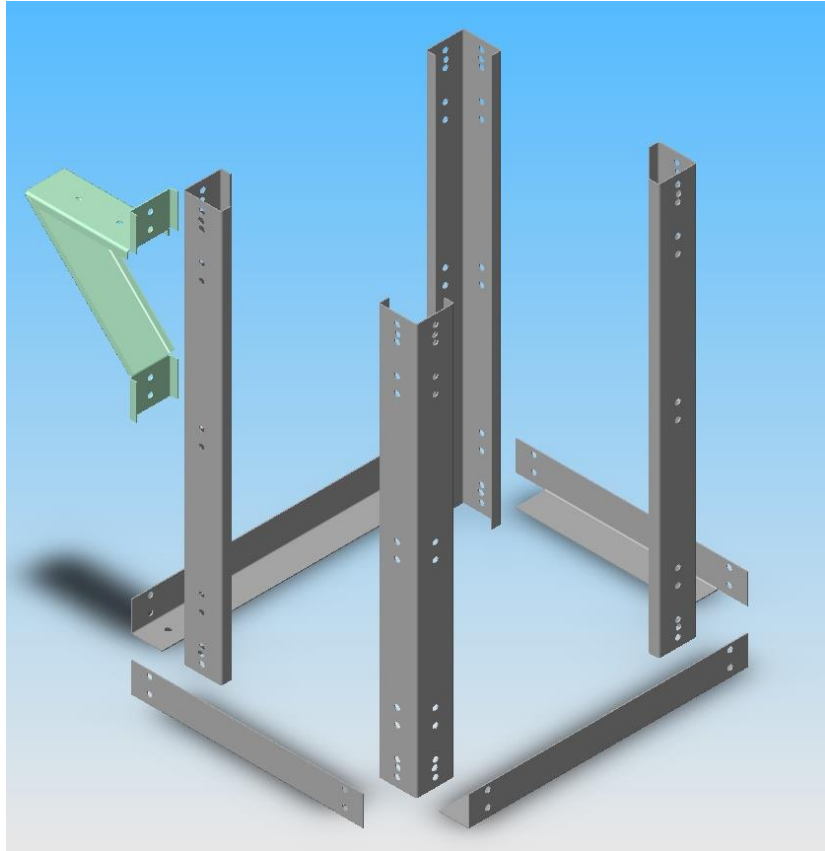

Figure 3: Assembling stand mount
- ii. Assemble the stand as shown (Figure 3).